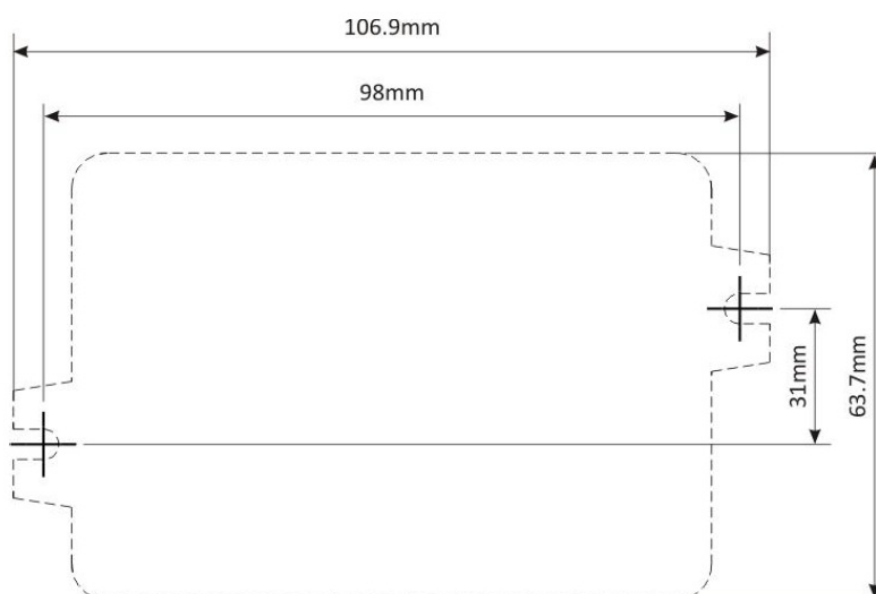

Fig.1
- Mount the device to a wall by using two plastic dowels 8x60mm (example Würth GmbH 0912 802 002) and two dowel screws 6x70mm (example Würth GmbH 0157 06 70). Attach the screws to the surface vertically. See Appendix-A, fig. 1 for mechanical details.